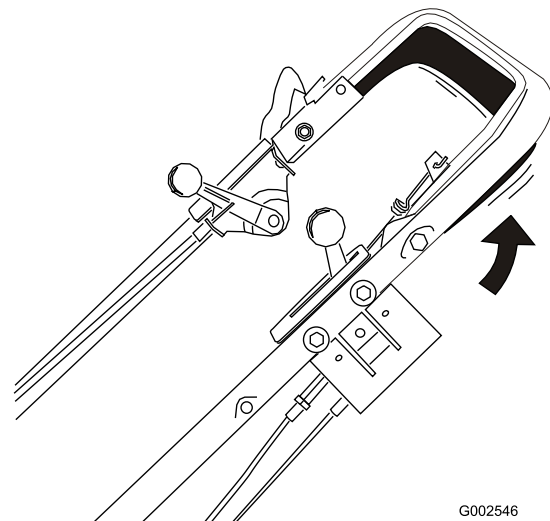

Figure 17
3. Squeeze the traction control bar against the handle (Figure 17).